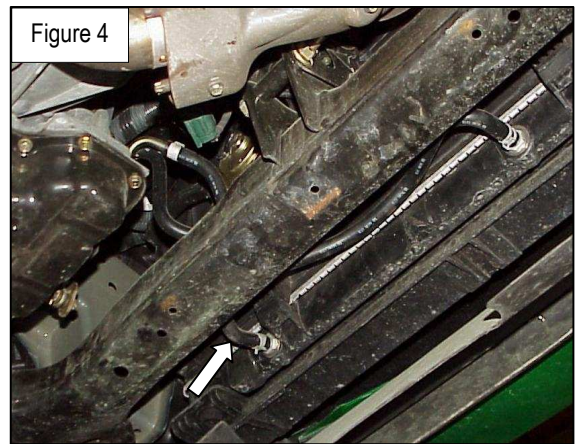

Figure 4
5. There will be 2 lines coming out of the transmission which go to your radiator for cooling. We will be intercepting one of these lines with the cooler. See **(fig.4)** to see which line.